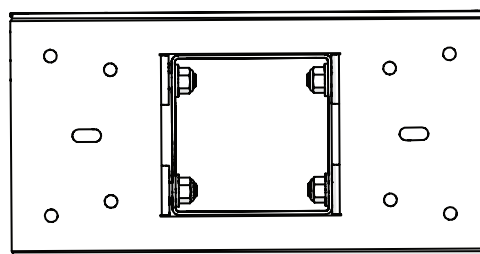

Fig. 1-4
- Once all the bolts/washers /nuts are in place and the mounting bracket is squarely mounted, fully tighten all four nyloc nuts as shown in Fig 1-4.